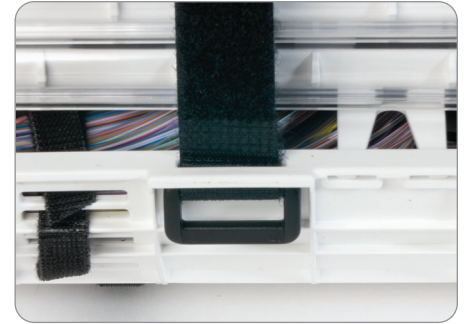

Figure 51
5. Pull the three Velcro straps through the horizontal strap slots soft side up. (Figure 51)